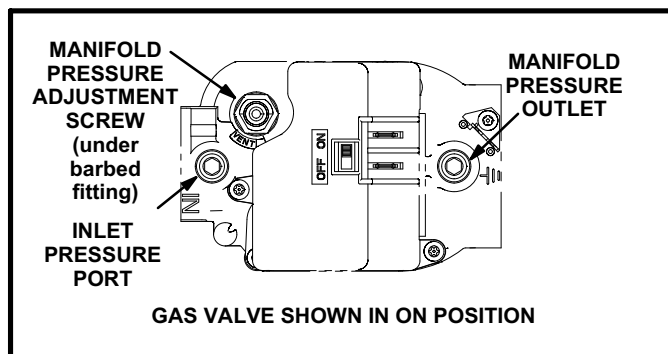

FIGURE 48
Gas Valve Operation (Figure 48)
- 6 - Move gas valve switch to **OFF**. See figure 48.
- 8 - Move gas valve switch to **ON**. See figure 48.
When testing supply gas pressure, use the 1/8" N.P.T. plugged tap or pressure post located on the gas valve to facilitate test gauge connection. See figure 48. Check gas line pressure with unit firing at maximum rate. Low pressure may result in erratic operation or underfire. High pressure can result in permanent damage to gas valve or overfire.